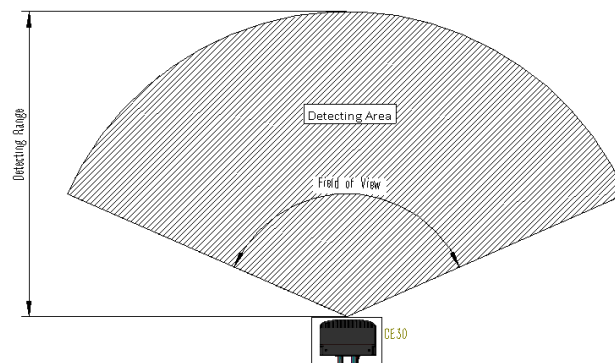

Figure 5 Illustration of Detecting Range and Area
On the working mode, CE30-A could detect all positions within the detecting range (within the detecting FOV) and return the distance information. Results of distance and detecting area are shown in Figure 5.
- 1) The data provided by the LiDAR is the vertical distance (projection distance) of the obstacle to the front surface of the machine, and the angle of the nearest point of the obstacle, i.e. (z, θ). The dead ahead of the LiDAR is 0 degree, the left is negative value angle and the right is the positive value angle. See Figure 5 Definition Graph for Detecting Range and Detecting Area.